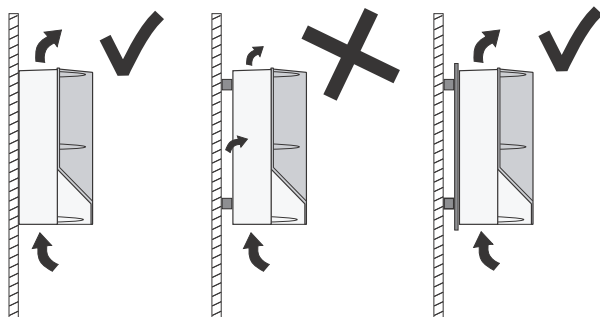

Fig. 3 CUE hung directly on the wall or fitted with a back plate
- Hang the CUE directly on the wall, or fit it with a back plate. See fig. 3.